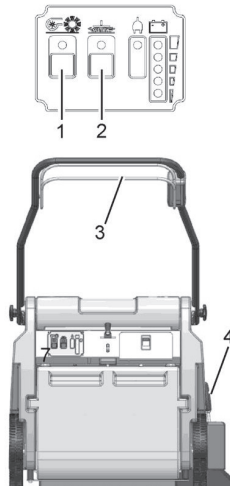

Fig. 3
Please read the Safety Information in Chapter 1. Before switching the machine on, ensure that the drive bar (Fig. 3/3) on the handle has not been actuated.
1. Switch the machine on using the (Fig. 3/1) button: rotary brush drive, dust vacuum and side brush drive are ready to operate.
2. Lower the side brush to its working position using the lever (Fig. 3/4). When working without the side brush: do not lower the side brush and press the button (Fig. 3/2) for the side brush once. The green control lamp goes out.
3. Actuate the drive bar (Fig. 3/3) on the handle: the machine starts to work. Start work immediately after actuating the drive bar, otherwise imprints could be produced on the floor. Release the drive bar when driving over thresholds.